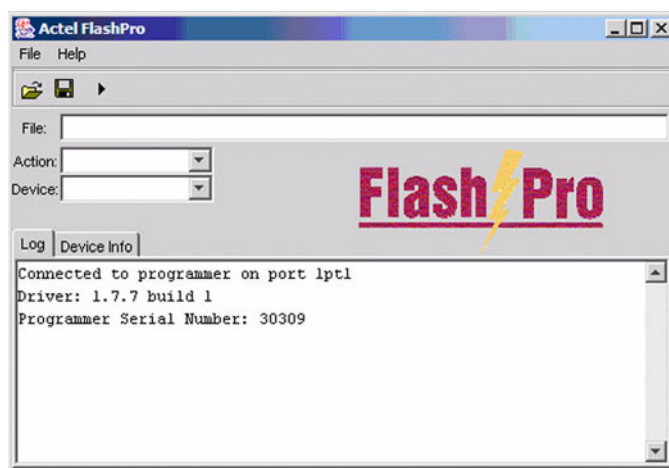

Figure 5 • Connect in FlashPro or FlashPro Lite
1. From the File menu, click Connect. The FlashPro Connect to Programmer dialog box displays. (Figure 5)